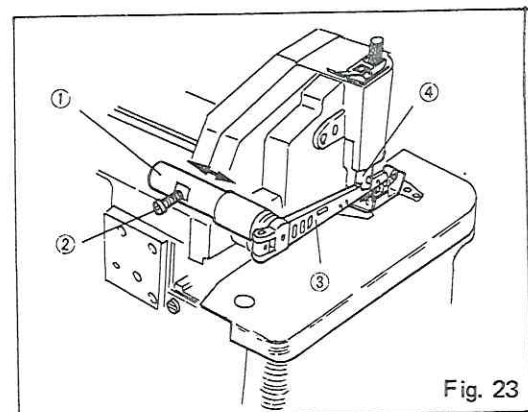

Fig. 23
(4) Presser Arm Setting Fig. 23
- Loose Screw ② of Foot Lift Lever Bushing ① .
- Remove Presser Arm ③ to left or right, for the Presser Arm Guide ④ holds and moves smoothly up and down on Presser Arm ③ .
Ajuste del brazo prensatelas. Fig. 23
Montage du bras du pied presseur Fig. 23